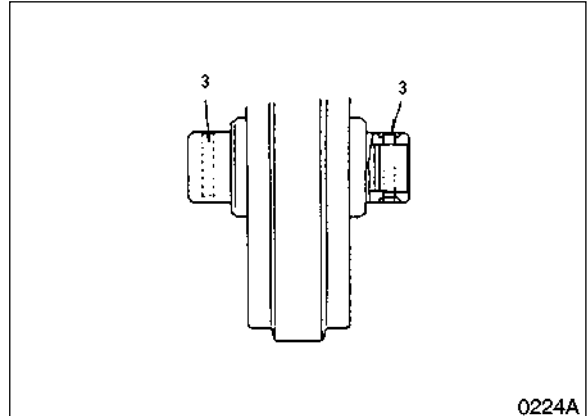

Figure 22
2. Separate the pin (3, Figure 22) from the bearing (1).